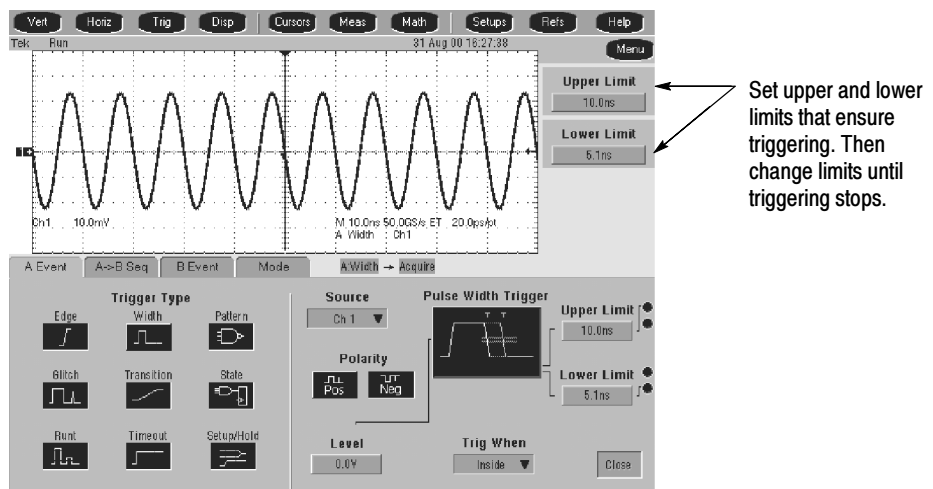

Figure 4-25: Measurement of time accuracy for pulse and glitch triggering
- c. *Set upper and lower limits that ensure triggering:* See Figure 4-25.